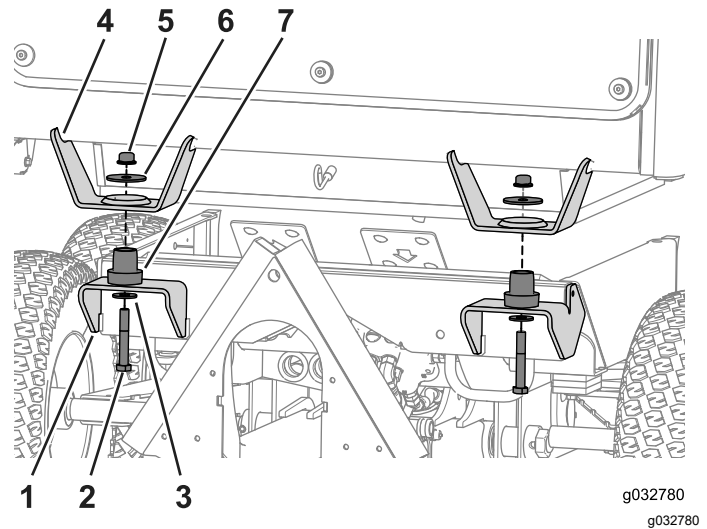

Figure 65
- Lower the cab to the machine aligning the 2 bolt holes on the front mounts (Figure 65).
- Insert a rubber isolator at each of the mounting locations (Figure 65).
- Use the bolt (1/2 x 3-1/4 inches), large washer and flange nut to mount cab to the machine (Figure 65).